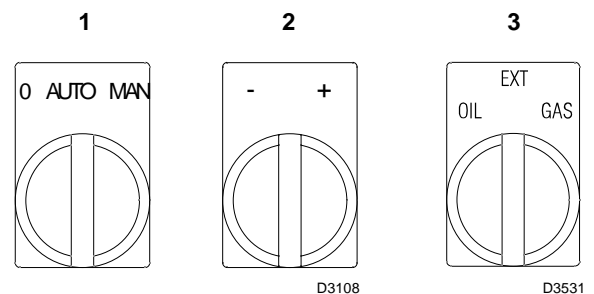

Fig. 33
Close load controls and set switch 1) (Fig. 33) to "MAN".
- 1 using selector 3) (Fig. 33);
By setting selector 3) (Fig. 33) to EXT, you activate the remote fuel selection facility.
Turn the "decrease output" selector 2) (Fig. 33) and keep it turned towards "-" until the servomotor has closed the air damper and the gas butterfly valve is at 35° (factory setting).
You can switch from one position to the next by holding selector 2) (Fig. 33) on the (+) or (-) symbol.
- Ignite the burner with the selector switch on the control panel in the manual position 1)(Fig. 33). At this point, after the pre-ventilation phase, the servomotor will stop at approx. 20°.
- At this point move the selector 3) (Fig. 33) on **GAS** and verify the correct gas working at the required output. Otherwise, carry out the setting of the gas cam as the above mentioned point **C (Gas cam)**.